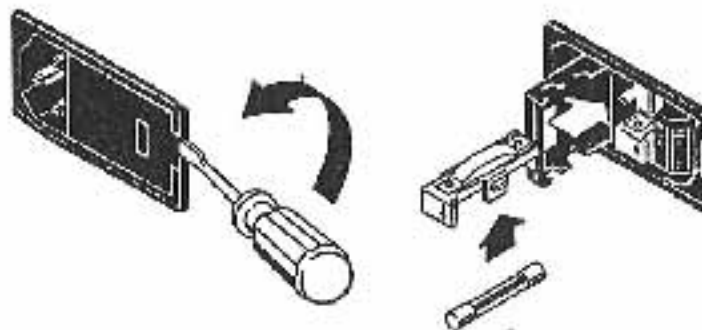

Figure 4-2. Fuse replacement and voltage selection
2. Using a small straight-blade screwdriver, gently pry open the power input module cover as shown in Figure 4-2.